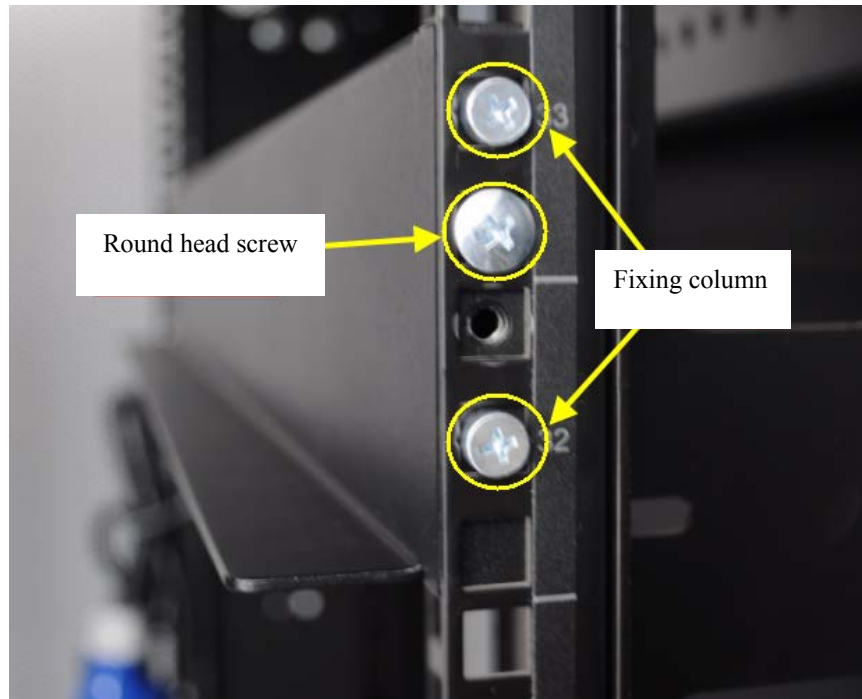

Figure 4-3
6. Adjust fixing positions of two fixing columns of front guide rail as required, so as to leave corresponding positions for front fixing holes of the equipment, place guide rail to a horizontal position, align lower edge with 32U starting point, extend fixing columns into angle rail fixing holes, and fix them with round head M5×6 screws, as shown in Figure 4-3, while fixing positions of round head M5×6 screws are also required to be ascertained according to corresponding positions of front fixing holes of the equipment, so as to avoid.